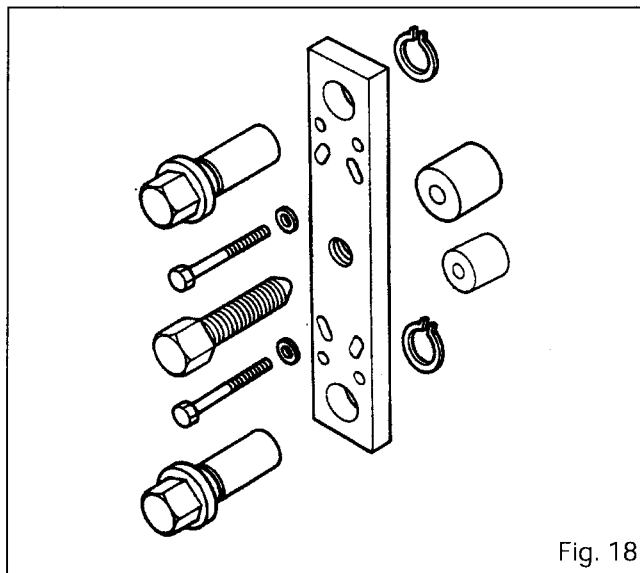

Fig. 18
3378038M1 - Extractor for ring gear carrier (42) (Fig. 18)